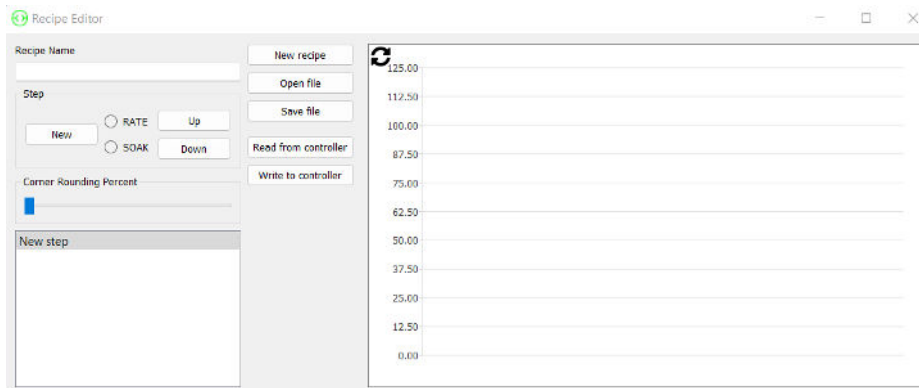
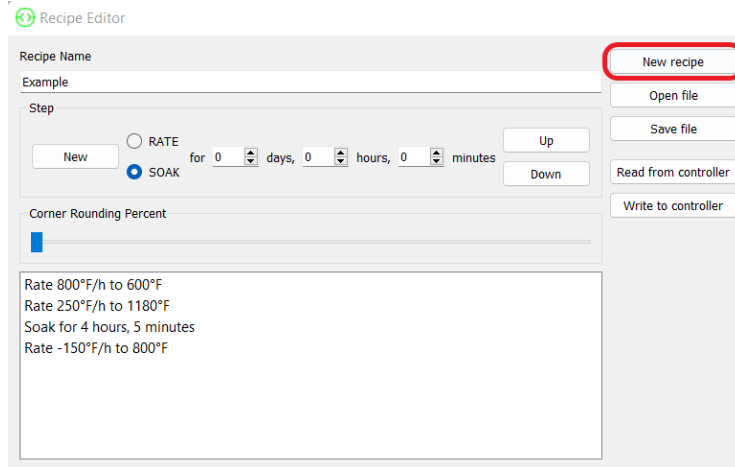

Figure 70: The Recipe Editor - New Recipe
Figure 77: Recipe Editor – ‘New Recipe’ Button
1. Open the 'Recipe Editor', it should appear empty as it does in Figure 70 below.
If you have additional recipes to create, you can now press the ‘New recipe’ button – highlighted in Figure 77 on the next page – to clear all fields in the ‘Recipe Editor’ window and return it to how it was in Figure 70.